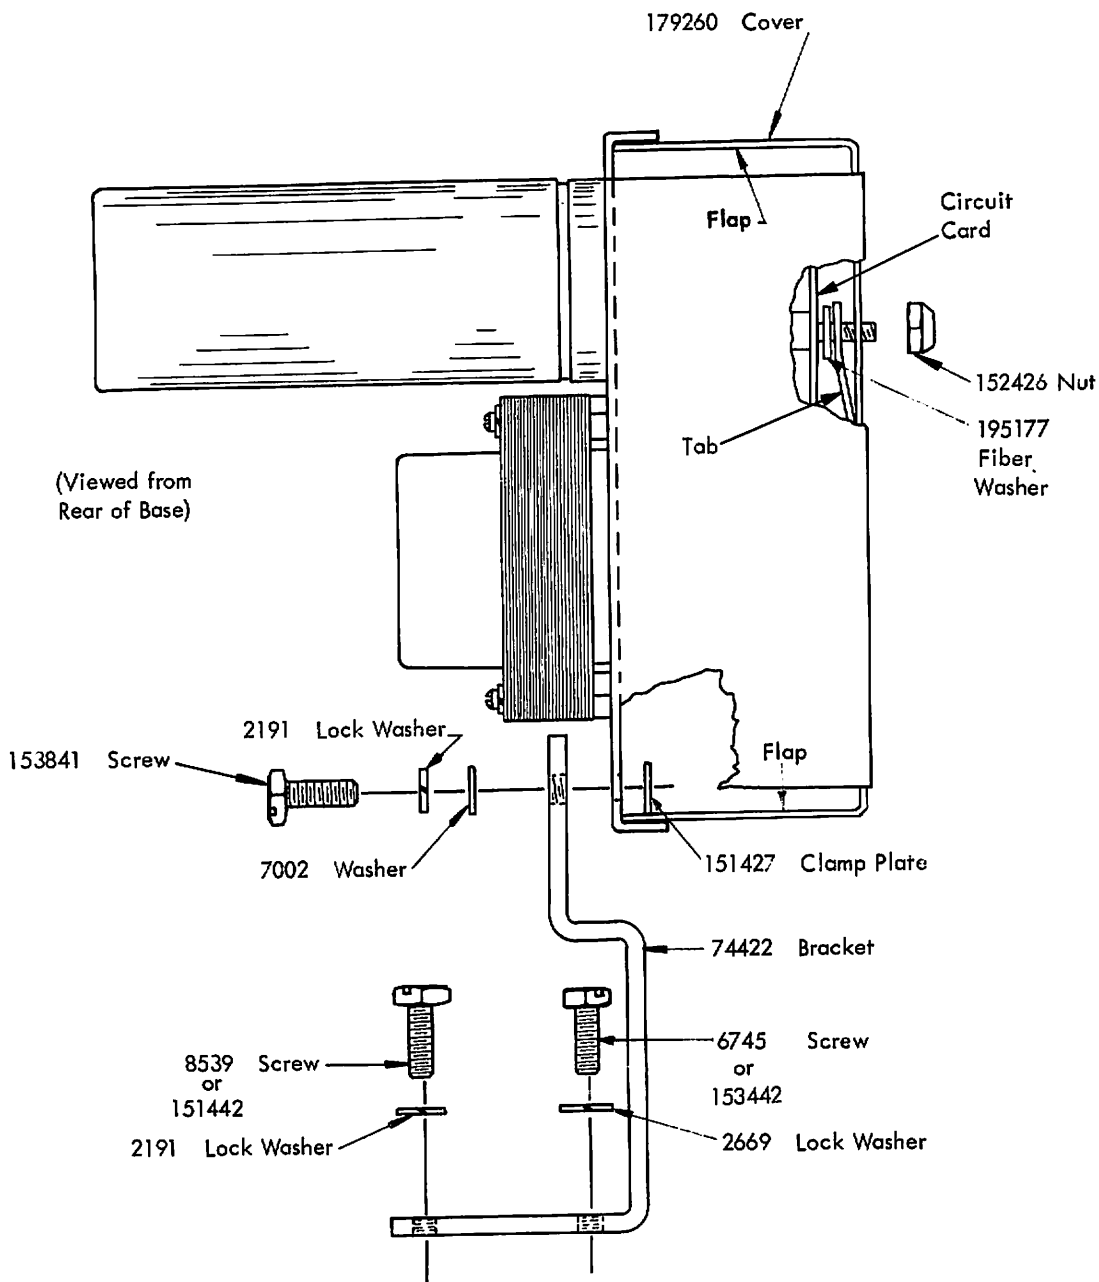

Figure 2-3. Mounting on Model 15 Base
(b) Mount 74422 bracket on the base using 153442 screw and 2669 lock washer and two 151442 screws and 2191 lock washers (see paragraph 2-4.a. (1) above). See Figure 2-2 for location of bracket and Figure 2-3 for location of mounting hardware.
(1) See paragraph 2-3. c. (1) above for strapping of circuit card for use with different types of line signals.
(2) Remove two 90789 flat washers and 151427 nut plates from 153841 mounting screws on Magnet Driver (Figure 5-1). Remove 153841 screws with 2191 lock washers and 7002 flat washers and slip them through threaded holes in 74422 bracket until they protrude a small amount on the other side (Figure 2-3). Place Magnet Driver on protruding screws, as shown in Figure 2-3. Install one threaded 151427 clamp plate on mounting screw. Install other plate on other screw. Tighten screws.
(3) The 179260 cover (part of 177015 Modification Kit) is furnished flat, but is scored for bending. Place cover over edge of a surface such as a table top and form two end flaps (see Figure 2-3). Remove 152426 nut from upper stud, but leave 131228 insulating washer in place. Place cover as shown in Figure 2-3 with tab over stud. Replace nut and tighten. Tuck flaps inside chassis' ends.
c. If circuit card is removed, when replacing it, place 195177 insulating washer between card and 152426 nut (see Figures 2-3 and 5-1) otherwise, nut will contact printed circuit and will cause damage to Driver.